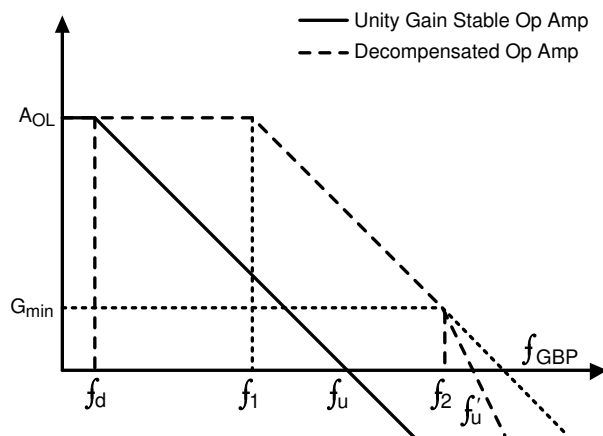

**Figure 2. Gain vs Frequency Characteristics for a Unity-Gain Stable Op Amp and a Decompensated Op Amp**
As shown in Figure 2, the dominant pole  $f_d$  is moved to the frequency  $f_1$  in the case of a decompensated op amp. The solid  $A_{OL}$  plot is the open-loop gain plot of a traditional unity-gain stable op amp. The change in internal compensation in a decompensated amp such as the OPAX607 increases the bandwidth for the same amount of power. That is, the decompensated op amp has an increased bandwidth to power ratio when compared to a unity-gain stable op amp of equivalent architecture. Besides the advantages in the above mentioned parameters, an increased slew rate and a better distortion (HD2 and HD3) value is achieved because of the higher available loop-gain, compared to its unity-gain counterpart. The most important factor to be considered is to ensure the op amp is in a noise gain (NG) greater than  $G_{min}$ . A value of NG lower than  $G_{min}$  results in instability, as shown in Figure 2 because the  $1/\beta$  curve intersects the  $A_{OL}$  curve at 40 dB/decade. This method of analyzing stability is called the *rate of closure method*. See the precision lab training videos from TI for a better understanding on stability and for different techniques of ensuring stability.